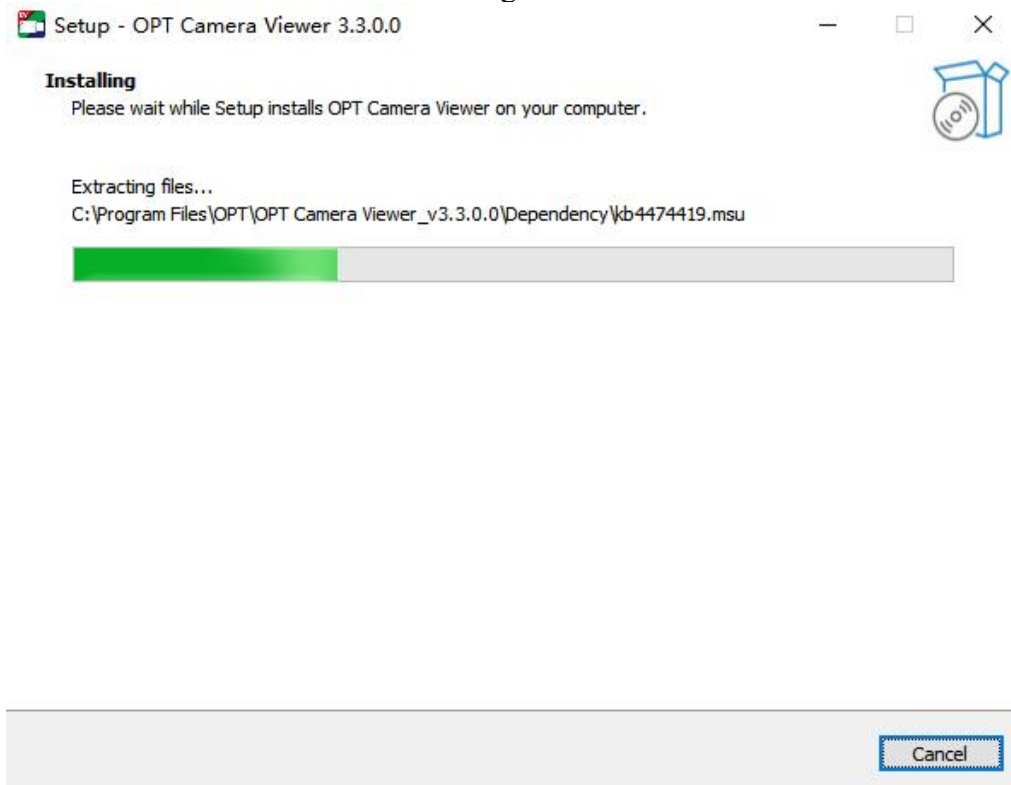

Figure 3-6, showing the installation window
7. Enter the installation window as shown in Figure 3-6 and wait for installation.